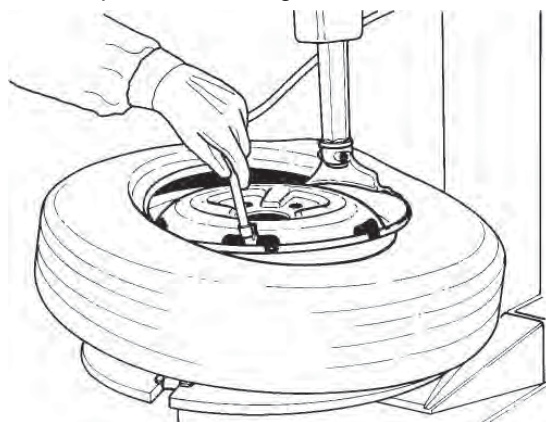

Fig. 5.1-3
**D.** Mount the first bead as described in section 4.2.B. Put the tube inside the tire and connect the inflation air line to the tube valve to hold the tube in place. (Fig. 5.1-3). Mount the top bead following the directions above.